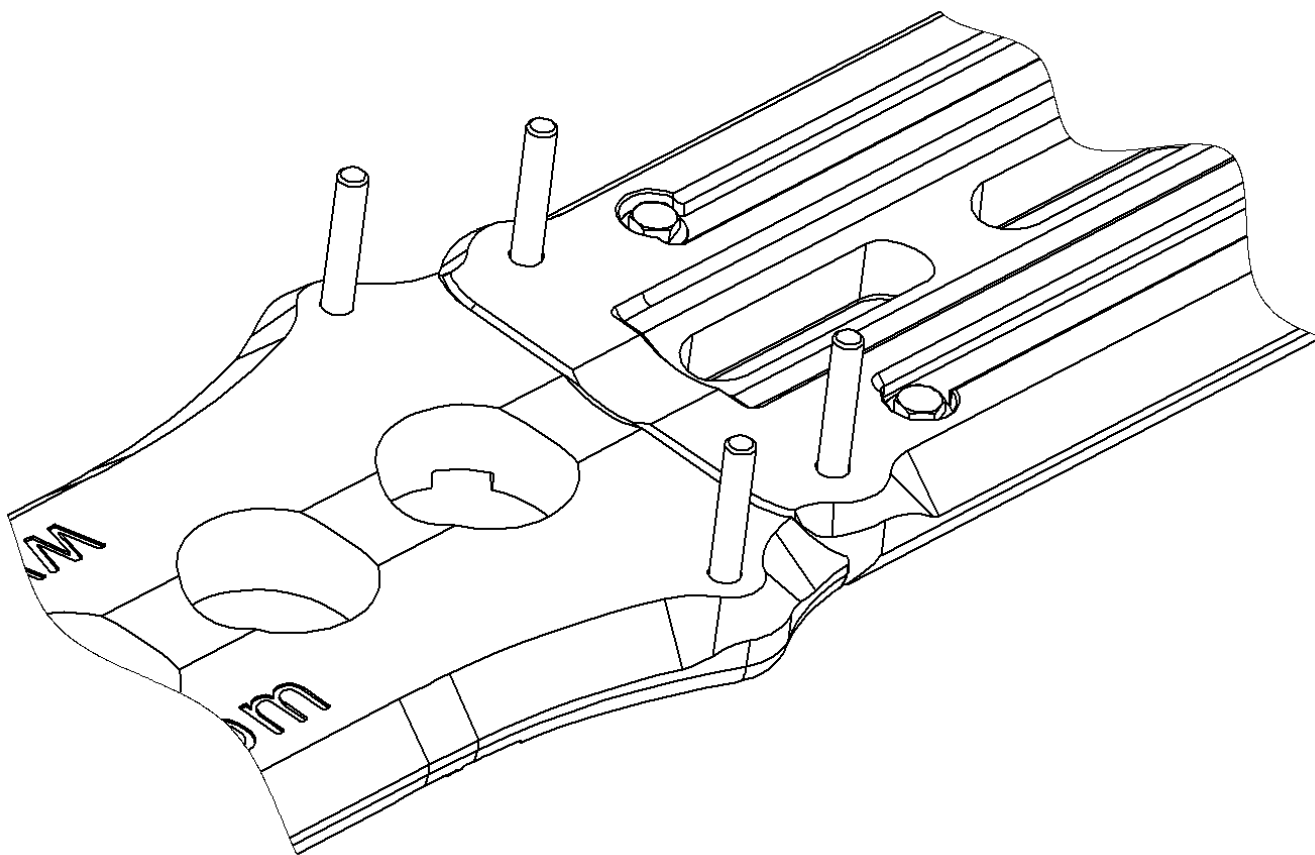

Figure 6
8. For aircraft configured for hoisting operations, temporarily remove the LHS AFT INBD and OUTBD nut and washer retaining the carriage bolts on the Traction Paw, Assy, (Item 2). See Figure 6.
9. Temporarily remove the LHS FWD INBD and OUTBD nut and washer, retaining the carriage bolts on the Bear Paw, Assy, Kit, (Item 1). See Figure 6.